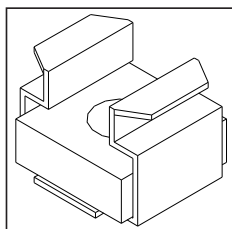

Figure 18: Square Bolt.
There are two (2) leveling legs and they can be found inside the manual bag. Each leveling leg consists of a long bolt, a hex nut, a washer, and a square bolt with clip (see Figure 18). For installation of the leveling legs the unit should be on its back and a $\frac{1}{2}$ " wrench is required for adjustments.